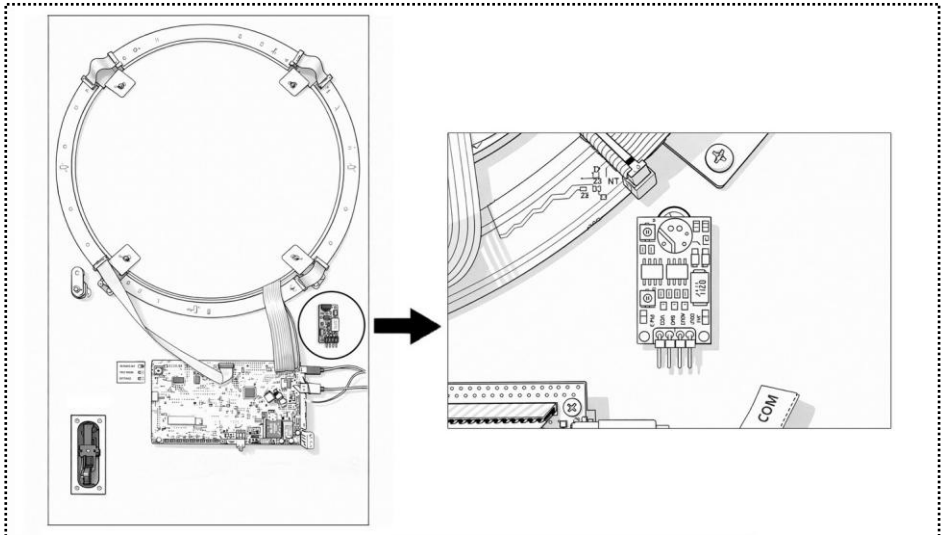

Figure 13.3: Shock sensor position
- **Sensor location:** The shock sensor (missed-throw sensor) is located on the inside of the upper cabinet door, near the motherboard (CPU). To access the sensor, the upper door of the machine must be opened (see Figure 13.3).